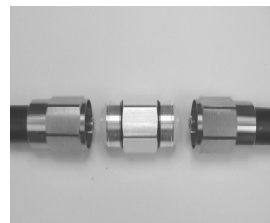

Figure 5
- 4) **Separate** splice middle-nut from back-nuts. **Slide** back-nut onto each cable end. The plastic insert should be firmly secured inside cable and back-nut will slide back and forth. Center conductor should protrude slightly beyond back-nut when back-nut is slid fully forward (Figure 4). **Slide** each center conductor into middle nut (Figure 5).